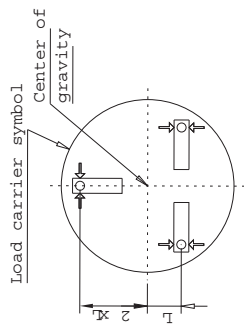

Figure 1
2. For scales with 3 modules, distances to center of gravity should be chosen with ratio 1:2, as shown in figure 1, which gives even load distribution.